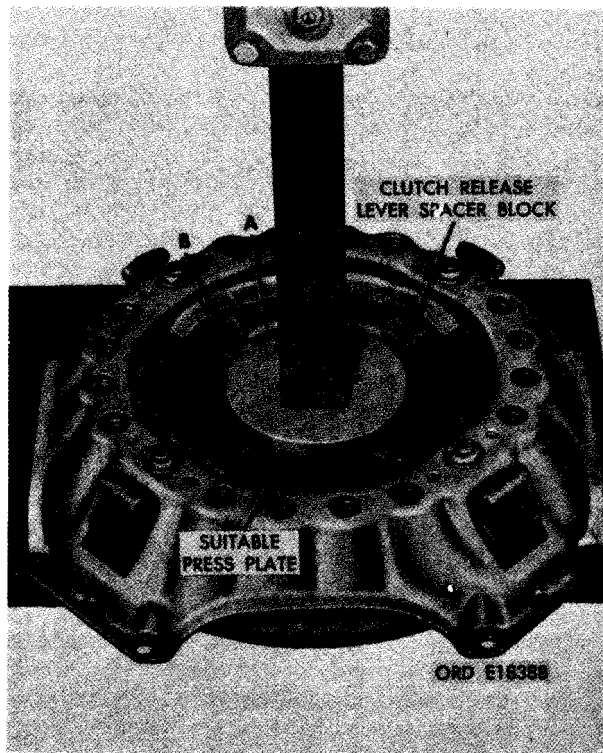

FIGURE 461. INSTALLING CLUTCH RELEASE LEVER SPACER BLOCKS BEFORE RELEASE LEVER HEIGHT ADJUSTMENT.
- (1) Figure 461. (A) Remove cross bar (fig. 451) and position a suitable press plate on throw-out bearing contact surface of release levers. The use of press plate, instead of cross bar (fig. 451), will allow more release lever travel for clutch release lever spacer block installation. (B) Install one clutch release lever spacer and clutch block between release lever and clutch cover as shown.